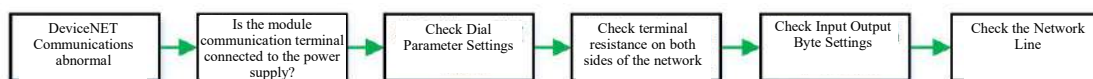

Figure 6-2-3 Troubleshooting process
- Figure 6-2-3 shows the troubleshooting process when communication is abnormal.